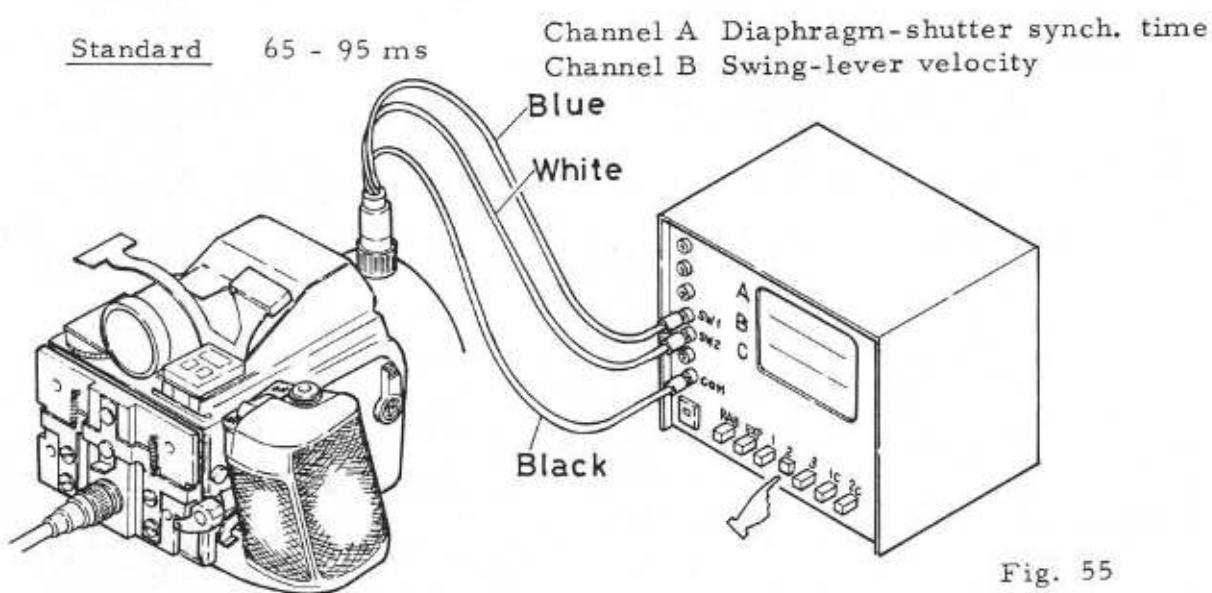

Fig. 55
- 53-1 Attach the DSST-244 and the Light Receiving Unit to the Body and connect the leads as shown in Fig. 55.
Mount the DSST-244 on the Body and connect its wires with the shutter tester as shown in Fig. 55.